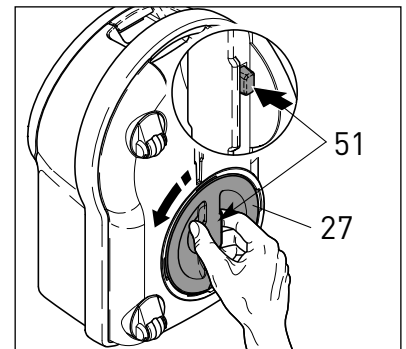
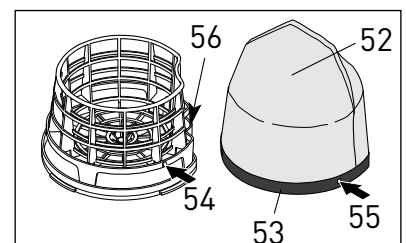
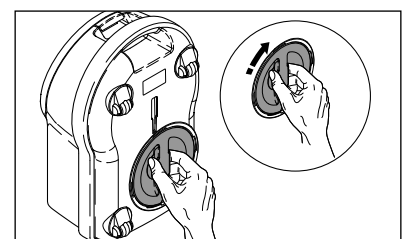

Figure 28
Figure 30
Figure 31
Changing the Exhaust Microfilter - Figures 28, 29, 30 & 31
After 10 to 20 bags have been used, change the exhaust microfilter (52). To remove the microfilter, switch off the power and unplug the vacuum. Press the release button (51) located on the filter holder (27) as shown in figure 28. While holding the button in, rotate the holder counter-clockwise and pull it out. Remove the filter (52) from the filter holder (27) by pulling the rubber strip (#53, figure 29) away from the notches (54) that hold it onto the base of the filter holder then pulling the filter off. Fit the new filter down over the holder, lining up the notches (54) on the holder with the holes (55) in the red rubber strip. The two tabs located on the indented portion of the red filter rim hook onto the holder rim (see position #56, figure 30). Tuck the peak of the filter down as shown in figure 29. Insert the assembly back into the machine and turn the holder cover clockwise (figure 31). It is not necessary to press the release button to close the filter holder.